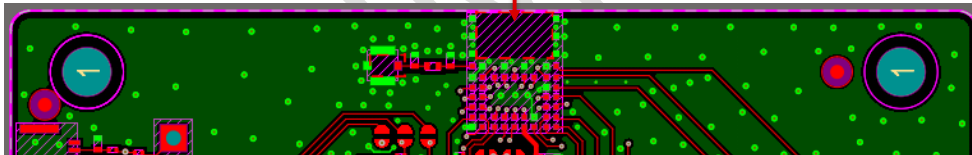

Figure 6: Chip Antenna keep-out area (shown in red) of the BL54L15 μ development board for the 453-00223 module.
- The BL54L15 μ development board (453-00223-K1) has the 453-00223 module on the edge of the board (not in the corner). The antenna keep-out area is defined by the BL54L15 μ development board which was used for module development and antenna performance evaluation is shown in **Figure 6**, where the antenna keep-out area is 3mm wide, 5mm long; with PCB dielectric (no copper) height $\sim$ 1.75mm sitting under the 453-00223 chip antenna module.
- Host PCB land pattern and antenna keep-out for the BL54L15 μ applies when the 453-00223 is placed in the edge of the host PCB preferably in the edge center. **Figure 6** shows an example.